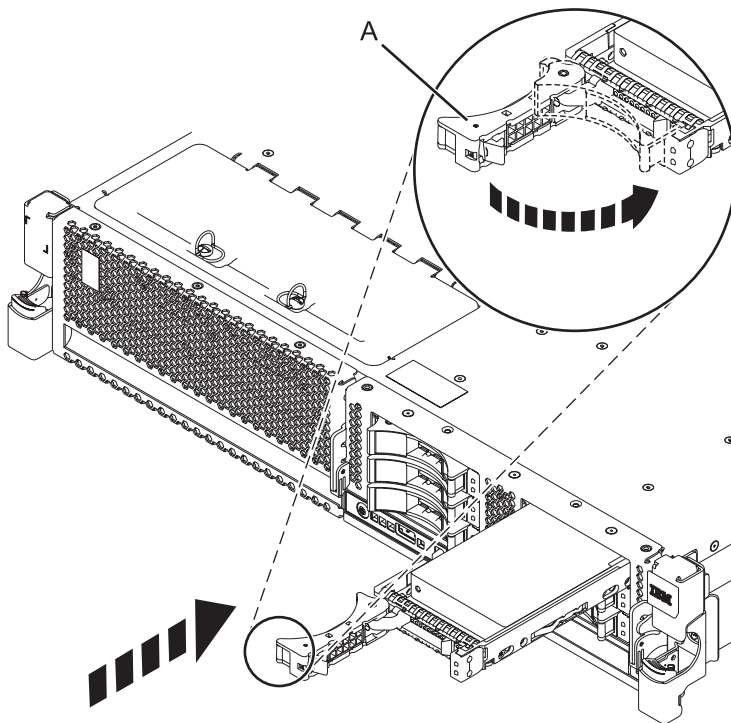

Figure 6. Installing the disk drive in the system
6. When the identify LED flashes, slide the drive all the way into the system or an expansion unit, and push the drive handle (A) in until it locks, as shown in Figure 6.